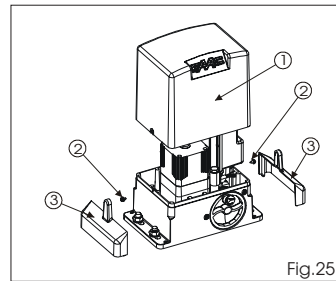

Fig.25
Return the board support to its original position. Fit the cover (Fig. 25 ref. 1), tighten the two side screws provided (Fig. 25 ref 2) and snap-fit the side panels (Fig. 25 ref.3).